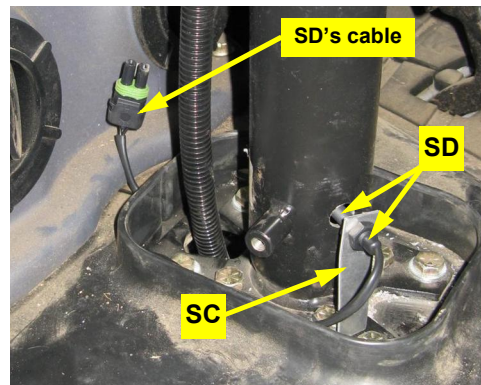

Figure 1d: Installed sensor bracket and sensor
- e. Attach sensor SD to sensor bracket SC. Install the sensor/bracket assembly using the removed cover/orbital bolt (Figure 1d).
- f. Align sensor SD with the magnets SA (not visible) and adjust the sensor face to 1/8" to 1/4" away from the magnets. Route SD's cable out through the front of the molded floor mat (Figure 1d).